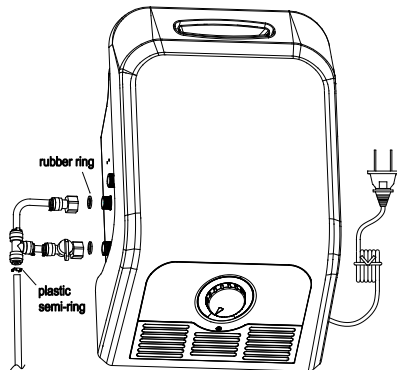

Figure 2
- ① Shown as Figure 2, connect the push-fit connector into OVERFLOW and OUTLET (shut off valve for OUTLET; remove the plastic semi-ring and push into the 3/8" pipe until it cannot push forward anymore, put on the plastic semi-ring).